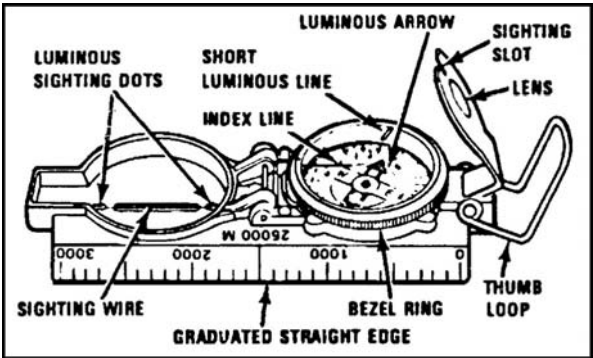

Figure 071-329-1003-1. Lensatic compass
- 1. Read your compass (figure 071-329-1003-1).